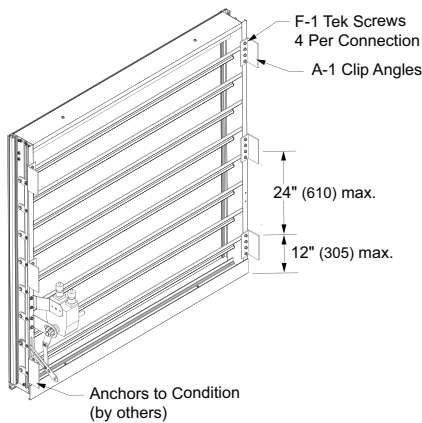

Fig. 2.1 Clip Angle - Single Section Louver
1. Locate all A-1 anchor clip angles as required to establish proper louver depth and position. See fig. 2.1 for required locations and spacing. (Clip angles are by others or optional by All-Lite.)